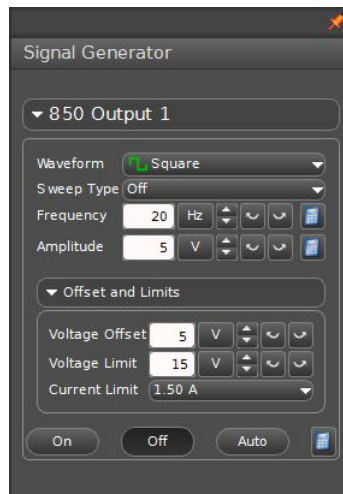

Figure 9: Signal generator window
- 7 Set the signal generator to produce a positive square wave by choosing the positive square wave in the signal generator window as shown in Fig. 9 below.